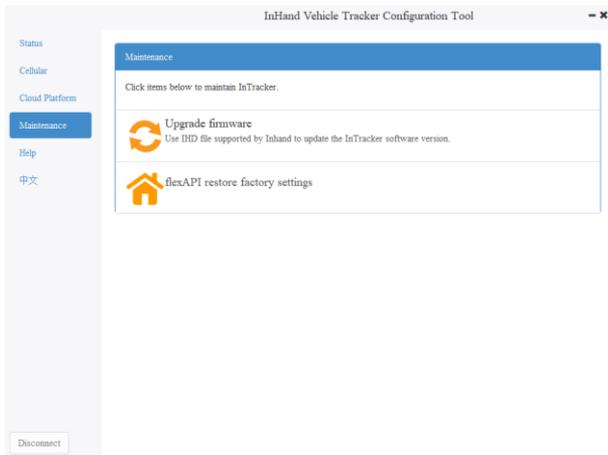

Figure 7-1
Step 1: Click **Maintenance** in the left-side navigation pane to access the configuration page. Click **Upgrade firmware** to access the upgrade page. Figure 7-1 shows the configuration page.